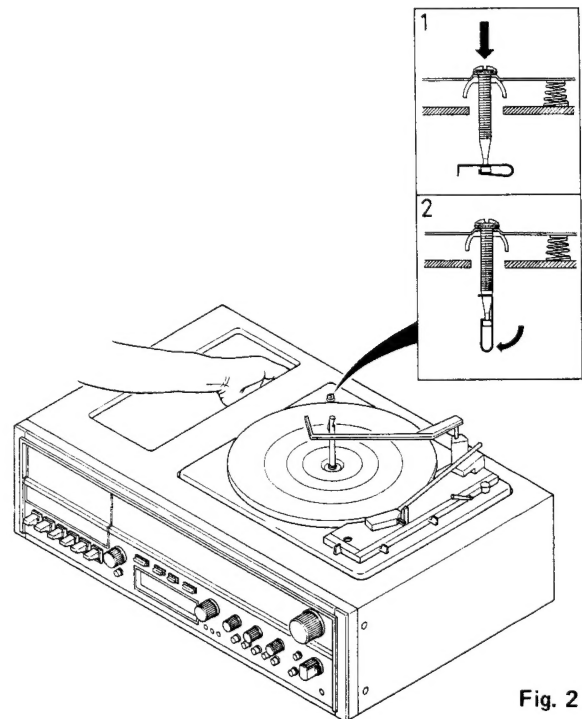

Fig. 2
2. Put a hand into the case hole as illustrated and arrange the turntable screws and stoppers as shown in sketches 1 and 2. (See Fig. 2.)